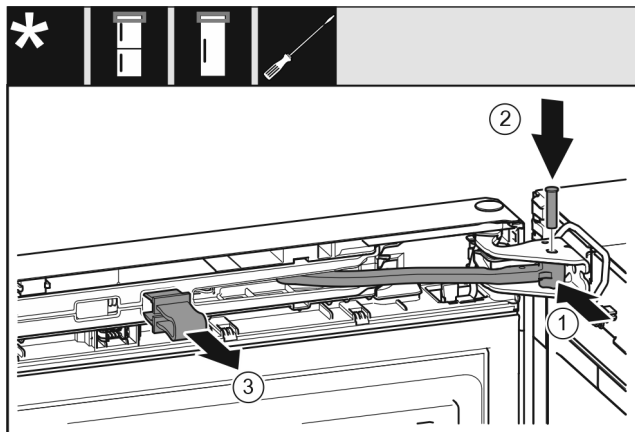

Fig. 70
- ▶ Turn the joint Fig. 70 (1) in the bearing block.
- ▶ Insert the bolt Fig. 70 (2) into the bearing bracket and joint. Ensure that the latching cam is in the groove properly.
- ▶ Remove the safeguard Fig. 70 (3).